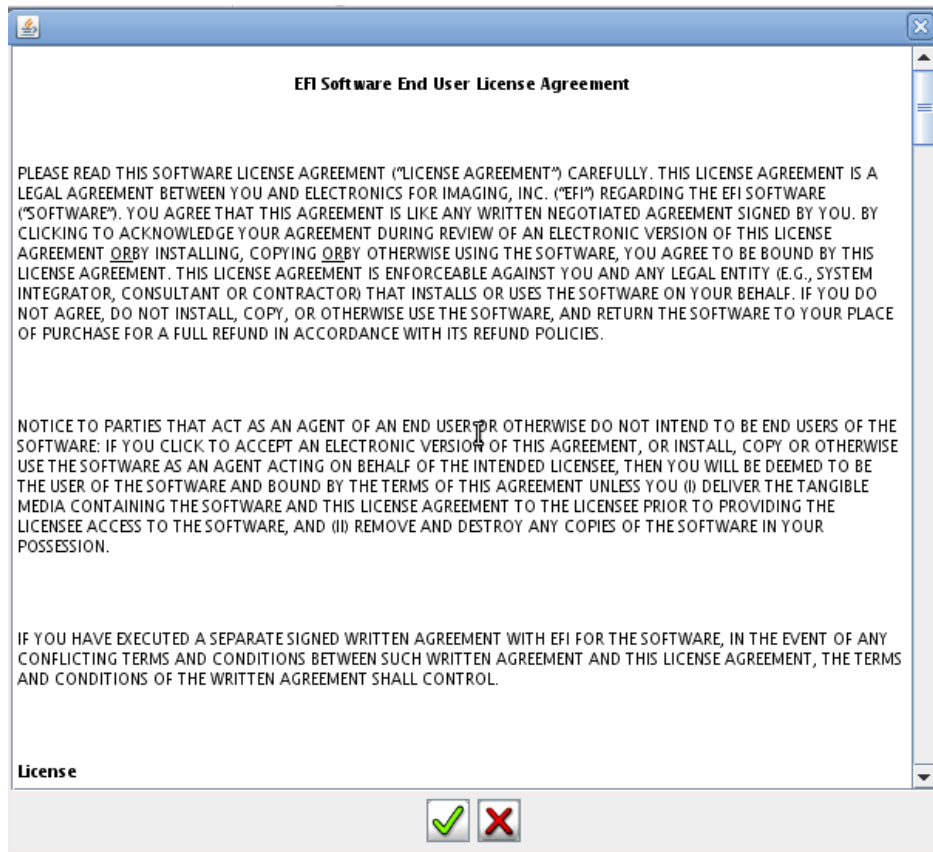

Figure 77: License Agreement
5. Accept license agreement, shown in **Figure 77**.